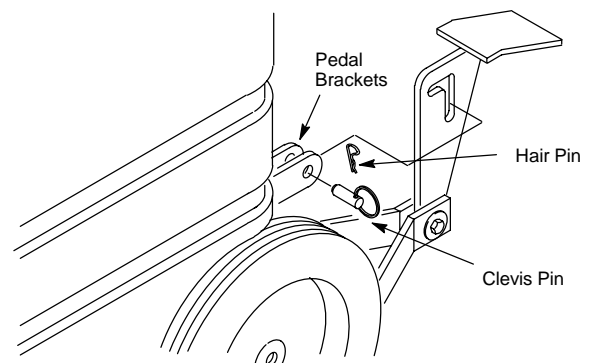

FIG. 4.
2. Position pedal between pedal brackets at rear of machine. Insert clevis pin through brackets and pedal, secure with hair pin (Figure 4.).